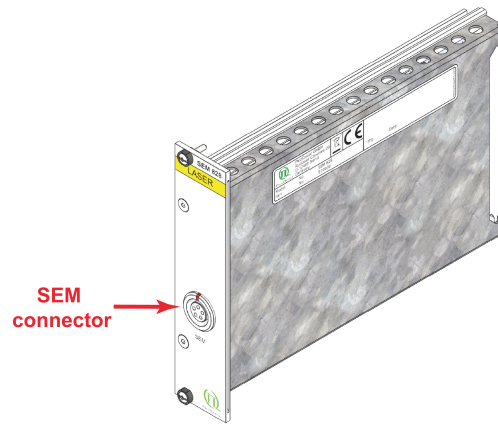

Figure 13: Sepia Extension Module (SEM 828) with connector
2. Install a *SEM 828*, see Fig. 13 into the *Sepia PDL 828* (if not already present). Refer to the manual of the *Sepia PDL 828* for detailed instructions.